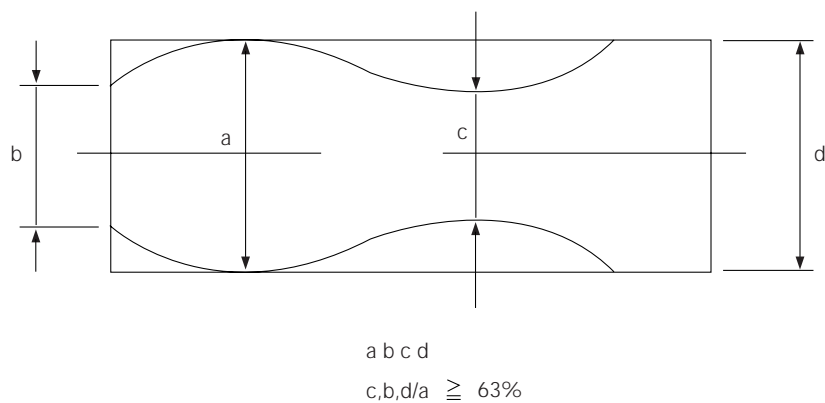

Fig. 3-14 Envelope Waveform Adjustment
- 3) Make sure the video envelope waveform (at its minimum) meets the specification shown in Fig. 3-14.